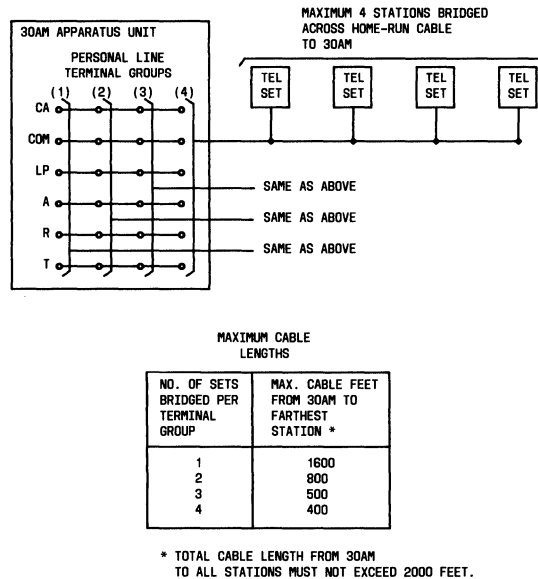

Fig. 12—Personal Line Cabling Limitations
**3.16 Personal Line Cabling**—Personal lines do not utilize the system interconnection cables but require separate connections between stations and 30AM apparatus units. Figure 12 illustrates the limitations on the connection of personal lines. Bridged cabling can connect a maximum of 16 sets to a 30AM apparatus unit. Refer to paragraph 3.56 for detailed instructions on installing personal lines.
**3.27** Convert the 86A connecting block (Fig. 12) supplied with the set to an 85A block and mount it on the wall plate as follows: